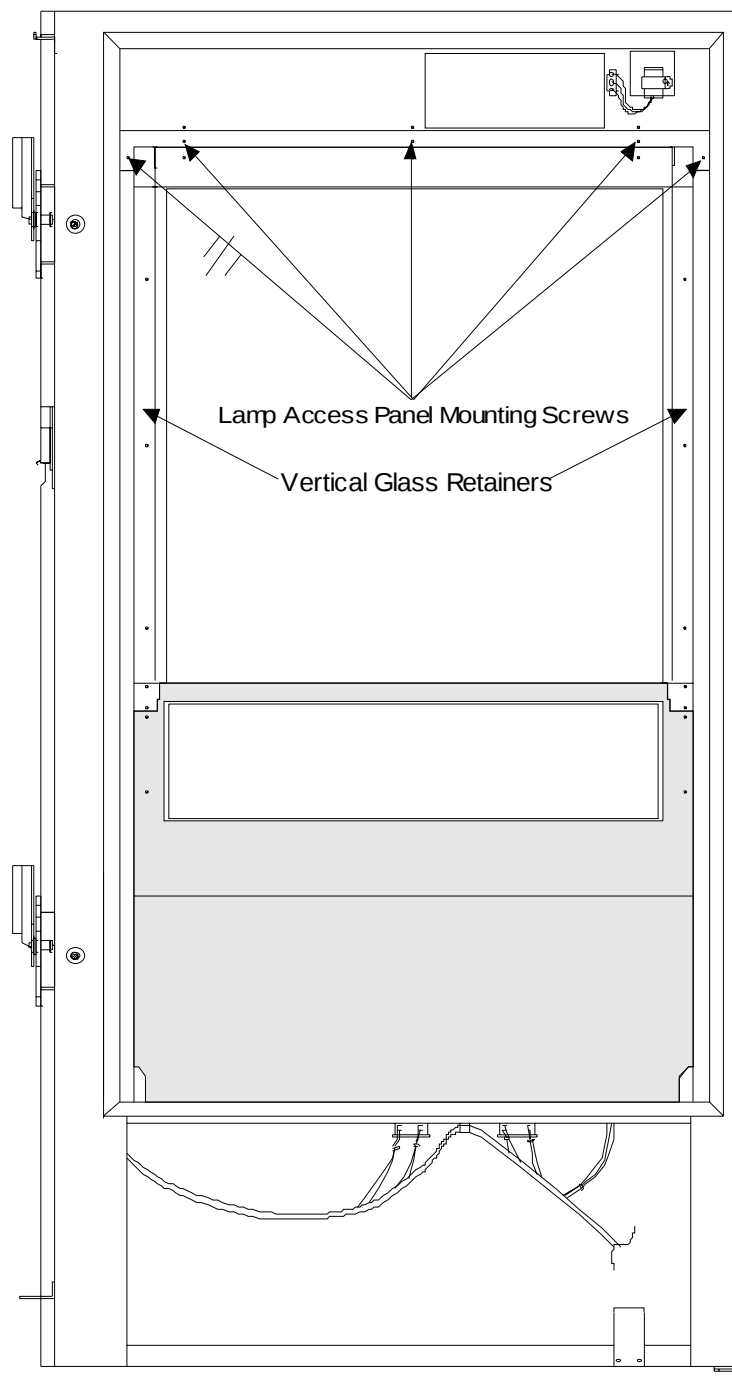

Figure 4-9. Replacing the Glass
4. Remove each of the vertical glass retainers. See *Figure 4-9*.